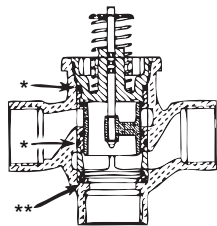

Fig. 6.
5. Clean the valve surfaces marked \* and \*\* in Figure 6 to ensure the new cartridge O-rings seal at these points. Use care to avoid damage to these surfaces (\*\* for 3-way valves only).